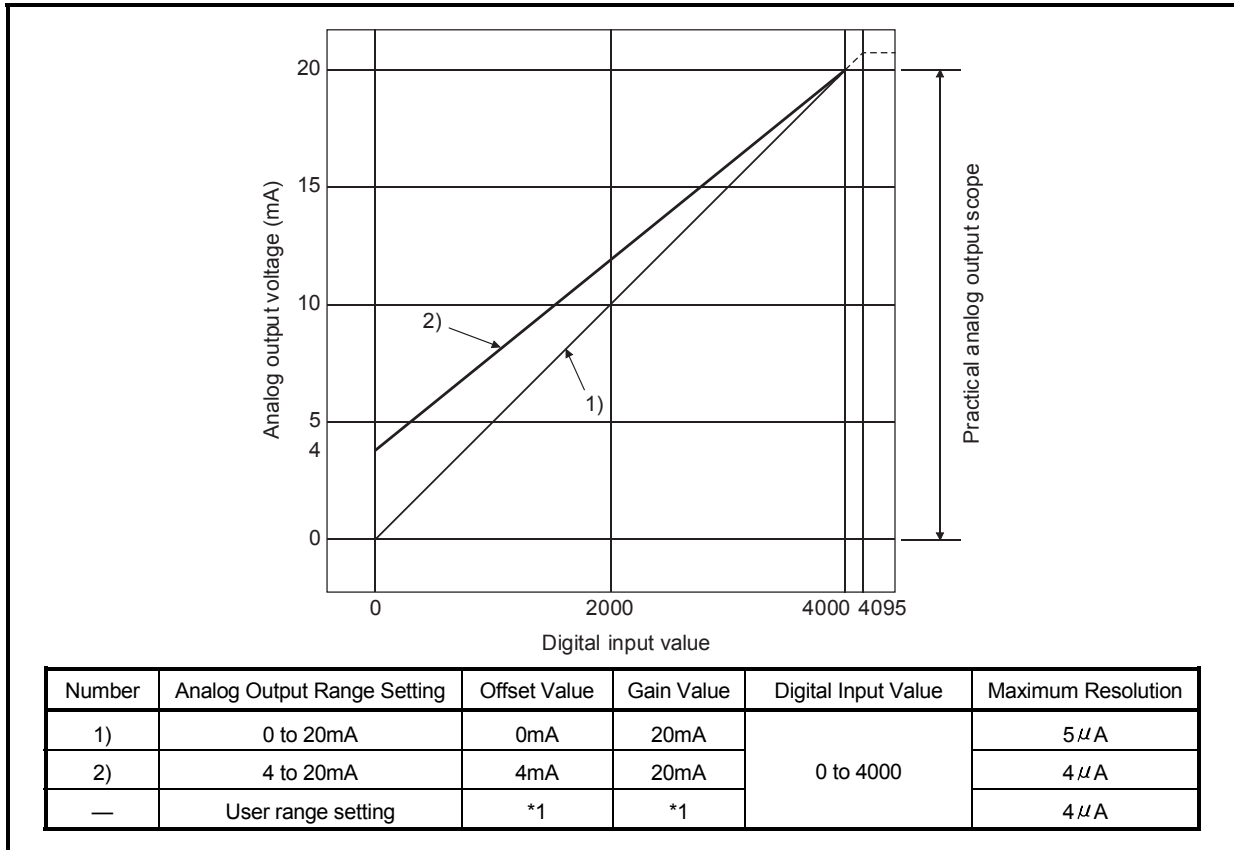

Fig. 3.2 Output characteristics of ST1DA1-I
<p>(1) Within the digital input and analog output scopes of each output range, the maximum resolution and accuracy are within the performance specification range. Outside those scopes, however, they may not fall within the performance specification range. (Avoid using the dotted line part in Fig. 3.2.)</p> <p>(2) Set the offset/gain values for the user setting range*1 within a range in which the following conditions are satisfied.</p> <p>(a) Offset/gain value setting range: 0 to 20mA</p> <p>(b) (Gain value) > (Offset value)</p> <p>(c) { (Gain value) – (Offset value) } \geq 16mA</p> <p>If condition (b) is not satisfied, ERR.LED turns on, the value will not be written to the module.</p> <p>When the setting is outside the condition in (c), conversion is made but the resolution is within the maximum resolution range of the performance specifications.</p>